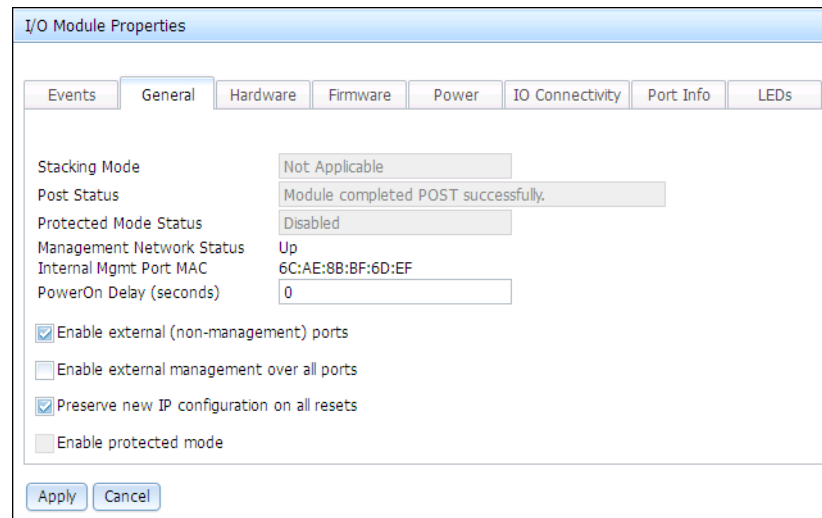

Figure 8-3 I/O module properties
- ii. Click the I/O module that you want to identify. In our case, we click **IO Module 1**. This opens the window that is shown in Figure 8-3.